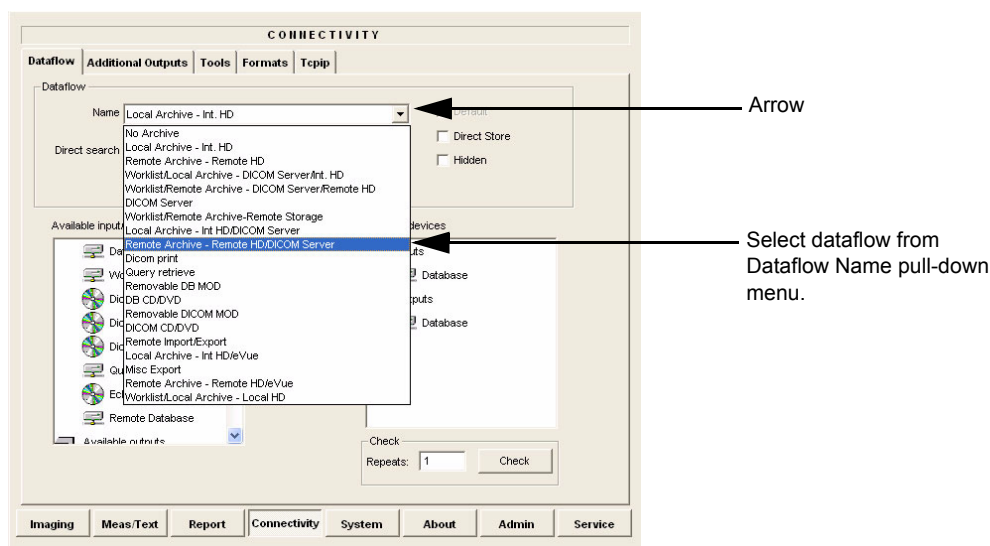

Figure 3-122 Select Dataflow
- 4.) Select the arrow to the right of the Name field to list all dataflows in a pull-down menu, see Figure 3-122.
- 5.) From the Dataflow Name pull-down list, select the dataflow you want to configure - see Figure 3-122.